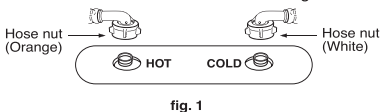

fig. 1
- Inlet hose for hot water is "Orange" hose nut, for cold water is "White" hose nut as fig. 1.